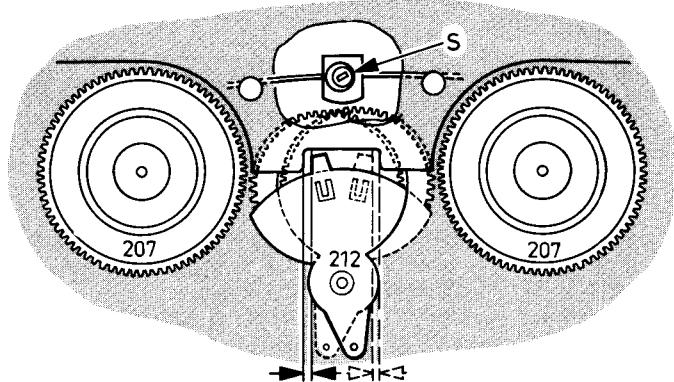

Fig. 2-5
- Carry out preparation items 1 and 2.
- Using a 0.6 mm gauge (a piece of 0.6 mm (22 swg) tinned copper wire will suffice) between the back end of the swivelling lever carrying the idler wheel and the top plate (Fig. 2-5).